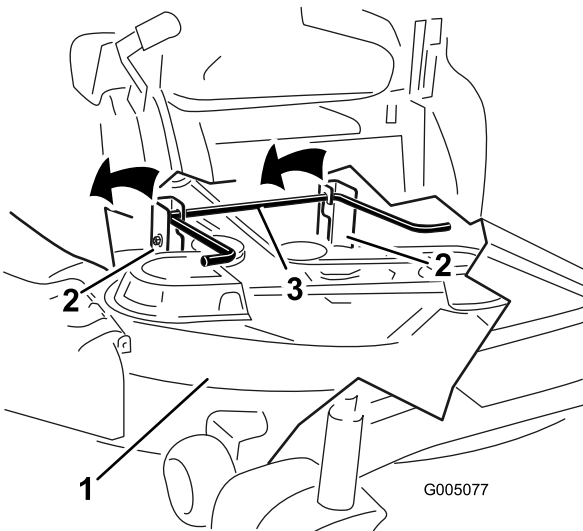

Figure 56
5. Lift the rear of the mower deck and guide the hanger brackets over the rear lift rod (Figure 56).
5. Lift the mower deck and hanger brackets clear of the rear lift rod and lower the mower carefully to the ground (Figure 56).